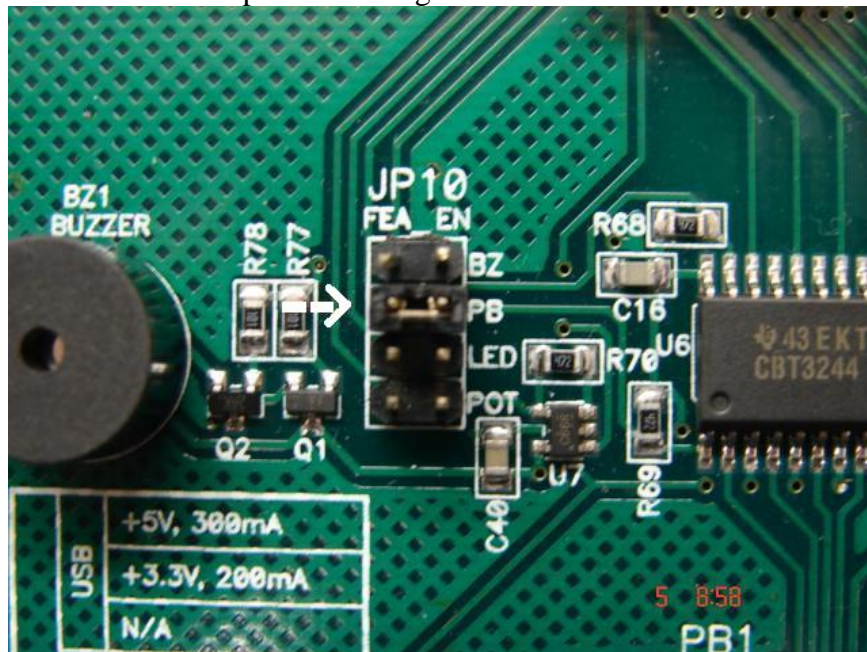

Figure 20 MCU Project Board Jumper setting for use with APS12C32SLK
- ◆ Make sure only the jumper PB on option header FEA\_EN on MCU Project Board is connected and all the others are unconnected as pictured in Figure 20